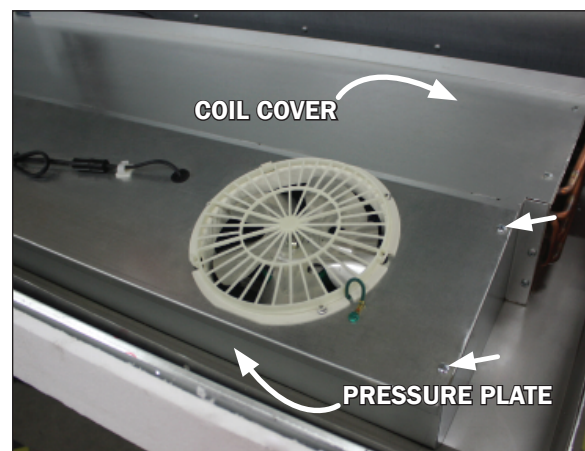
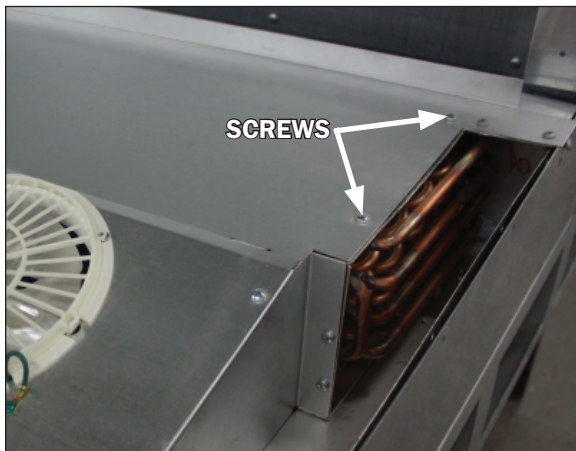

Fig. 16 Pressure plate, screw locations and coil cover (topside)
Fig. 19 Coil cover removal
2. To access the underside of the fans first remove the screws on the top ends and front sill of the pressure plate cover (Fig. 16). Lift the pressure plate by use of the
2. Remove the top two screws at both ends of the coil cover (Fig. 19), as well as the screws from the top ends and front sill of the pressure plate cover (Fig. 16). **Be sure to save the removed screws for reassembly.**